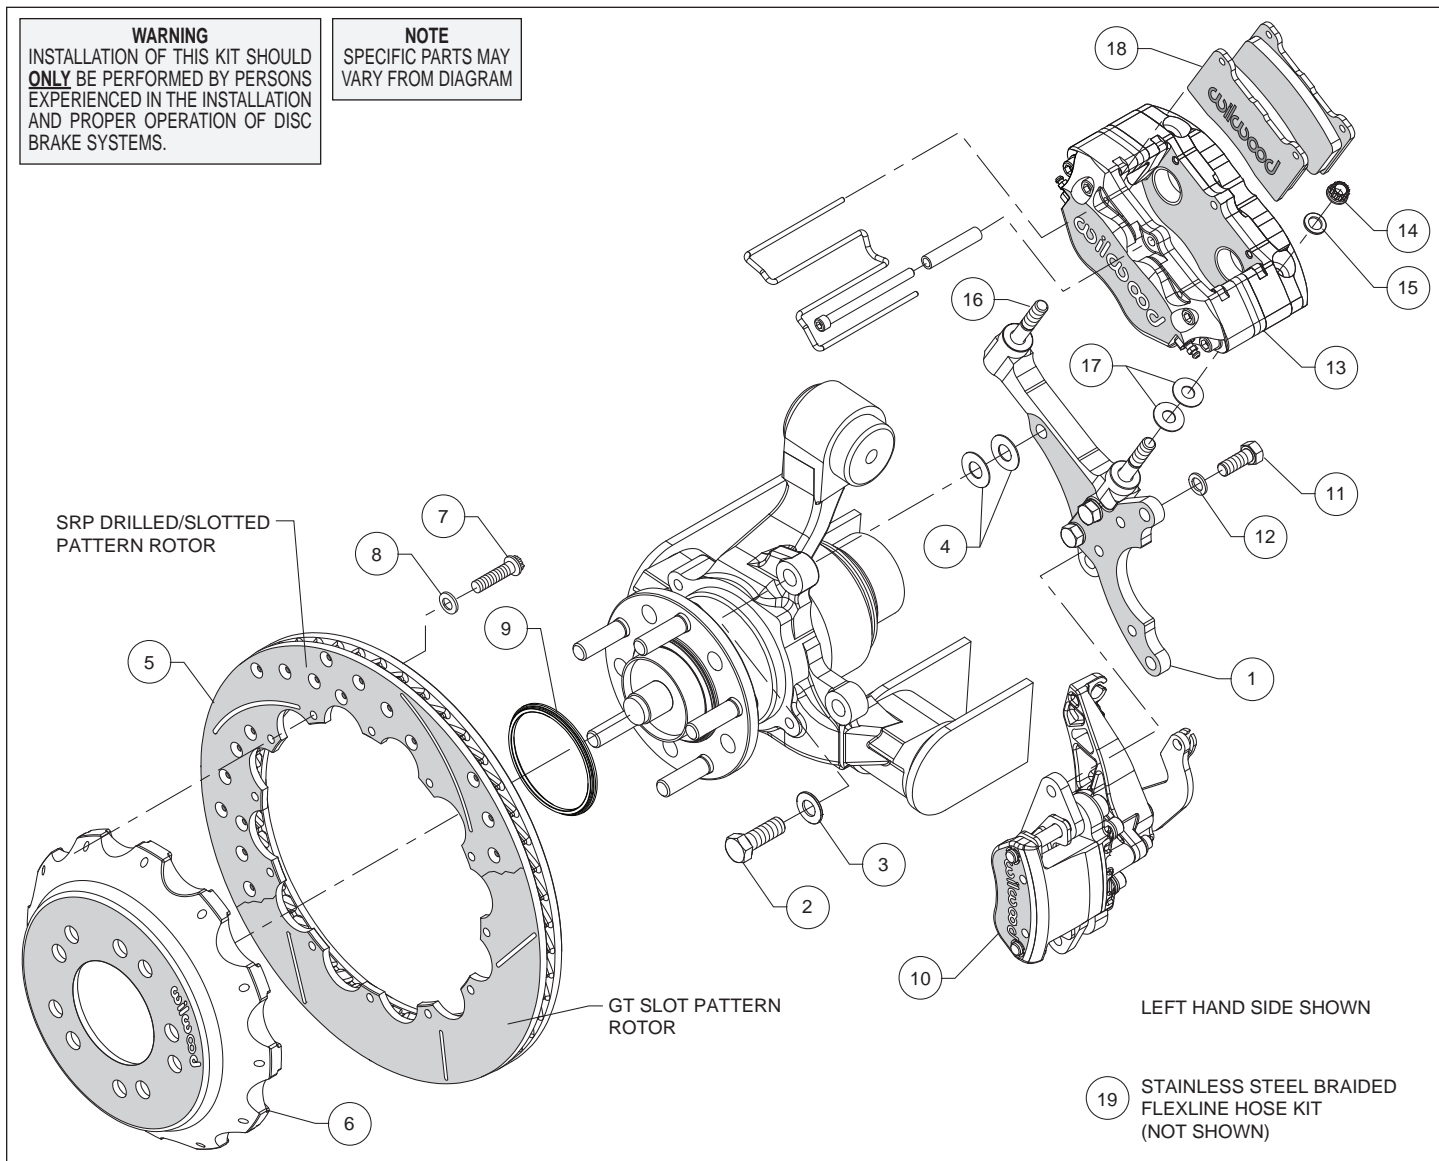
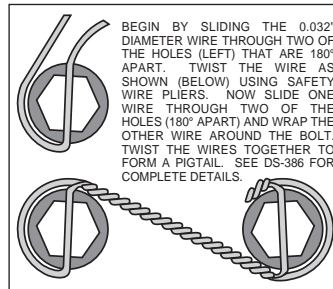

Figure 1. Typical Installation Configuration
Figure 3. Safety Wire Diagram
Assembly Instructions (numbers in parenthesis refer to the parts list and Figure 1 on the preceding pages):
- The caliper mount bracket (1) should initially be installed with clean, dry threads on the mounting bolts. Orient the bracket as shown in Figure 1, and Photo 1, and install using bolts (2) and washers (3). Initially place two .033" thick shims (4) on each bolt between the bracket and upright, Figure 1. Temporarily tighten the mounting bolts. **NOTE:** *The bracket must fit squarely against the mount bosses on the upright.* Inspect for interference from casting irregularities, machining ridges, burrs, etc. Later, after the caliper alignment has been checked, the mount bolts will be secured using red *Loctite*[®] 271.
- Orient the rotor (5) and the hat (6) as shown in Figure 1 and Photo 2. Attach rotor to hat using bolts (7) and washers (8). Using an alternating sequence, apply red *Loctite*[®] 271 to the threads, and torque to 155 **in-lbs**. For an added measure of security, the bolts may be safety wired using standard 0.032 inch diameter stainless steel safety wire as shown in Figure 3. Please refer to Wilwood's data sheet DS-386 (available at www.wilwood.com/Pdf/DataSheets/ds386.pdf) for complete safety wire installation instructions.
- Lubricate the caliper mounting studs (16) with lightweight oil. Initially place two .035" thick shims (17) on each stud as shown in Figure 1 and Photo 5. Mount the caliper (13) onto the bracket (1) using lock nuts (14) and washers (15), Figure 1. Temporarily tighten the lock nuts and view the rotor through the top opening of the caliper. The rotor should be centered in the caliper, Photo 6. If not, adjust by adding or subtracting shims (4) between the bracket and the mounting bosses. Always use the same amount of shims on each of the two mounting bolts. Once the caliper alignment is correct, remove the bracket mounting bolts one at a time, apply red *Loctite*[®] 271 to the threads, and torque to 60 ft-lb.
- Insert the brake pads (18) into the caliper with the friction material facing the rotor (5), as shown in Figure 1 and Photo 7. Check that the top of the brake pad is flush with the outside diameter of the rotor, Photo 8. If not, adjust by adding or subtracting shims (17) between the caliper and the bracket. After the caliper pad height is set, torque the caliper lock nuts (14) to 30 ft-lb. Secure the pads in place using the pad clip retainer as well as the center bridge pad retainer tube, bolt, and locknut, Photo 9. The locknut should be snug without play in the bolt or tube. Be cautious not to over tighten.
- Mount the parking brake caliper (10) onto the caliper mounting bracket (1) using bolts (11) and washers (12), as shown in Figure 1 and Photo 10. Apply red *Loctite*® 271 to bolt threads, and torque to 30 ft-lb.
- NOTE:** OEM rubber brake hoses generally cannot be adapted to Wilwood calipers. The caliper inlet fitting is a 1/8-27 NPT. Install Wilwood's stainless steel braided flexline hose kit (19), P/N 220-15021 included with this kit. **Carefully route hoses to prevent contact with moving suspension, brake or wheel components.** **NOTE:** Be sure to attach the bracket for the fitting to the Factory Five Roadster chassis in a location which will allow full suspension travel and will not cause the line to have tension or be pinched, Photo 11. **NOTE:** Wilwood hose kits are designed for use in many different vehicle applications and it is the installer's responsibility to properly route and ensure adequate clearance and retention for brake hose components.